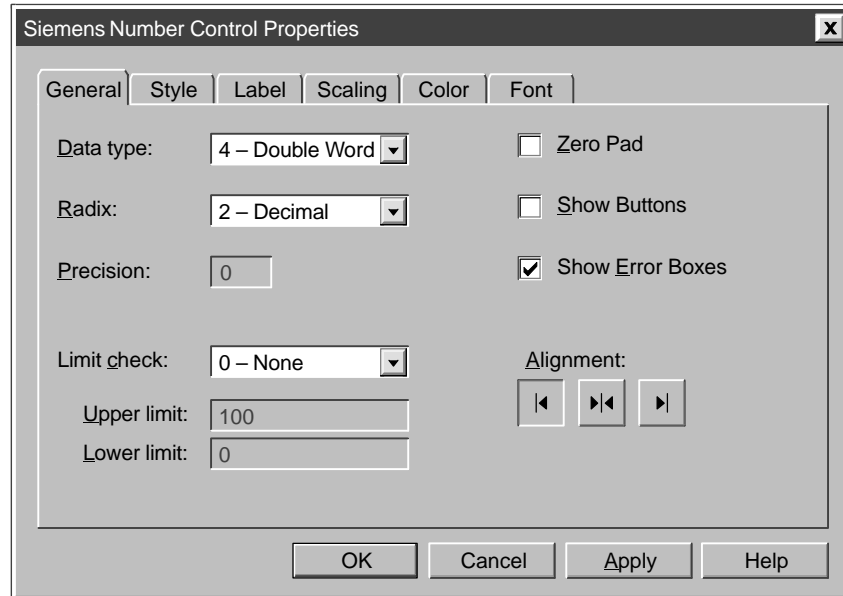

Figure 2-3 Number Control Properties (General Tab)
The General tab of the Properties dialog box (see Figure 2-3) allows you to define the presentation of the data accessed by the Number control.
- "Zero Pad": When you enable this option, the Number control fills out the data type by inserting zeroes (0) to the left of the value. The default setting for this option is disabled (not selected).
- "Show Buttons": When you enable this option, the Number control displays the Enter and Cancel buttons. (See Figure 2-3.) When this option is checked, you must confirm any new value in order to enter it. Typing a new value in the display field of the control enables the buttons. Clicking on the Enter button writes the new value to the control engine; clicking on the Cancel button replaces the new value with the value from the control engine. The default setting for this option is disabled (not selected).